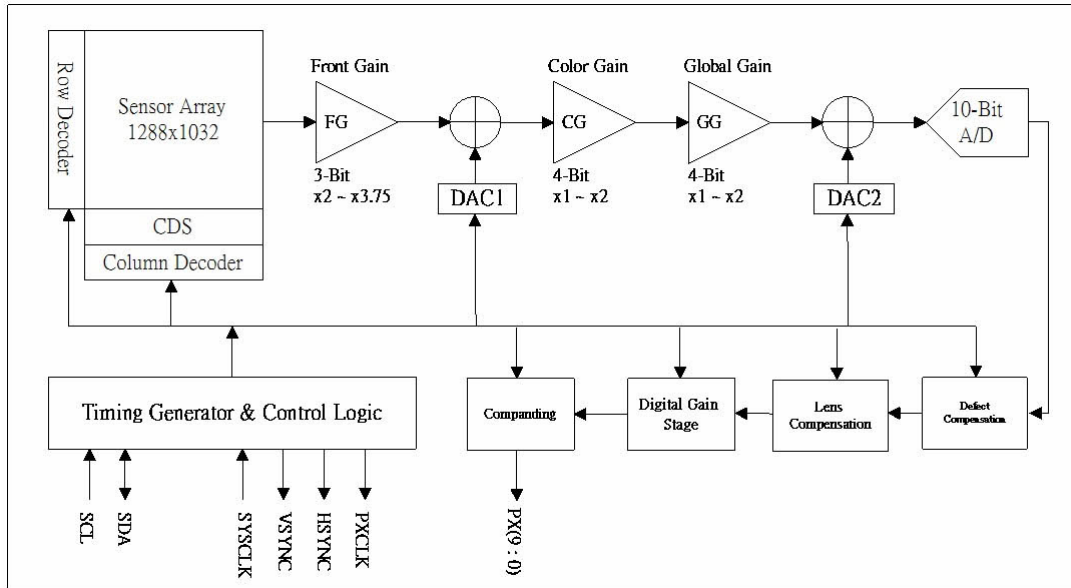

Figure 3.1 Shows the PAS5101CS sensor block diagram
The PAS5101CS is a 1/3" CMOS imaging sensor with 1280 (H) x 1024 (V) physical pixels. The active region of sensor array is 1288 (H) x 1032 (V) as shown in Figure 3.1. The sensor array is cover with Bayer pattern color filters and μ -lens. The first pixel location (0,0) is programmable in 2 direction (X and Y) and the default value is at the left-down side of sensor array.